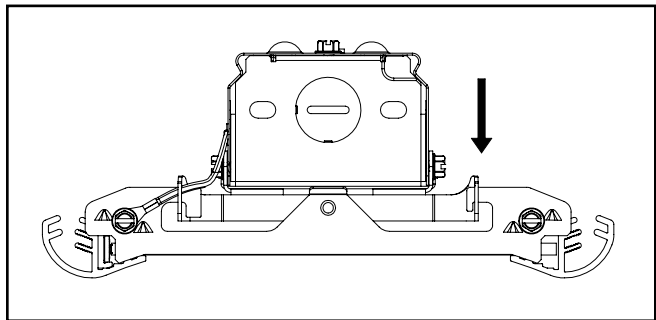

Figure 3.4
- Place the waveguide assembly thinner tab end inside the groove in channel hinge bracket. (Figure 3.4)